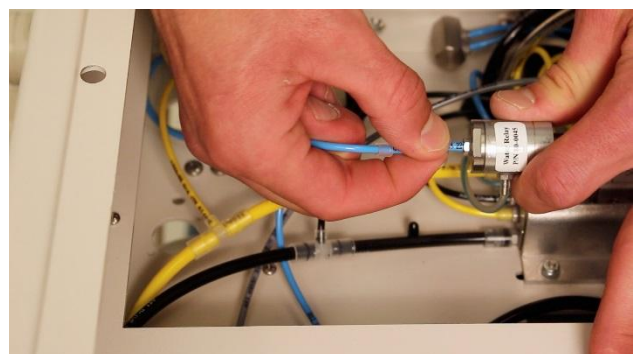

Fig. 5
- 6 Place sleeves (20-0029) over tubing, slide tubing fully onto new barbs, and secure sleeves with sleeve tool. (Fig. 5)